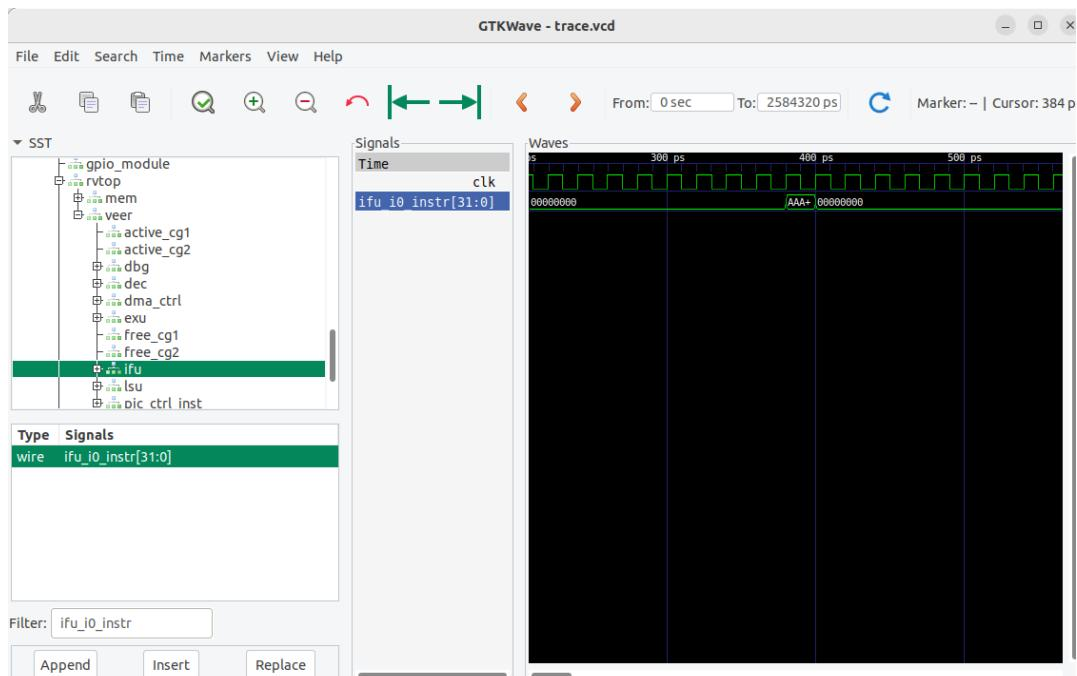

Figure 70. Add signal `ifu_i0_instr[31:0]` to the timing waveform
- Now add the signals that show the instruction that executes in the RISC-V core. In the same module (**ifu**) look for signal **ifu_i0_instr[31:0]** (Figure 70), and drag it into the black Waves pane. The prefix **ifu** indicates the instruction fetch unit and **instr[31:0]** indicates the 32-bit instruction.